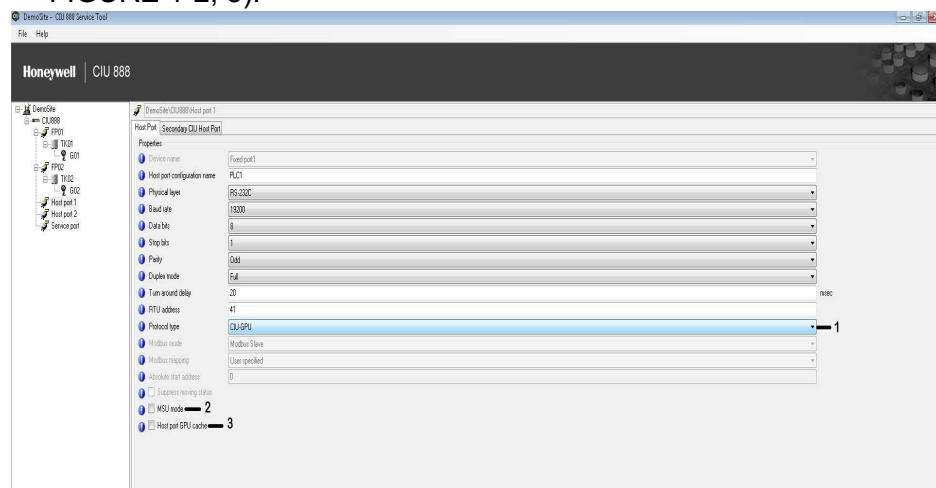

FIGURE 1-2
1. On the **HostPort** tab, Set the **Protocol Type** property to **CIU-GPU** (see FIGURE 1-2, 1).
2. If required, select the **MSU mode** option (see FIGURE 1-2, 2). Refer to section 1.3.3 for more information about MSU mode. A check mark is displayed in the associated check box.
3. If required, enable or disable the **Host port cache** option (see FIGURE 1-2, 3).